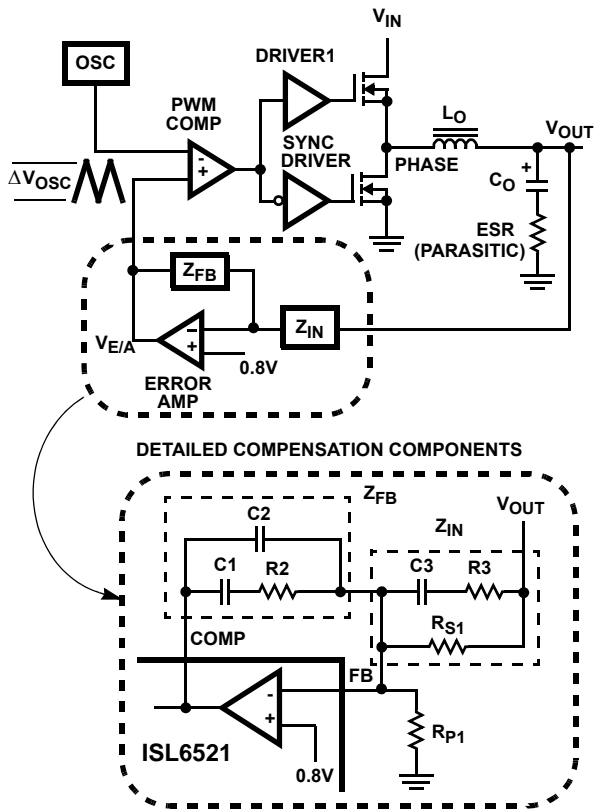
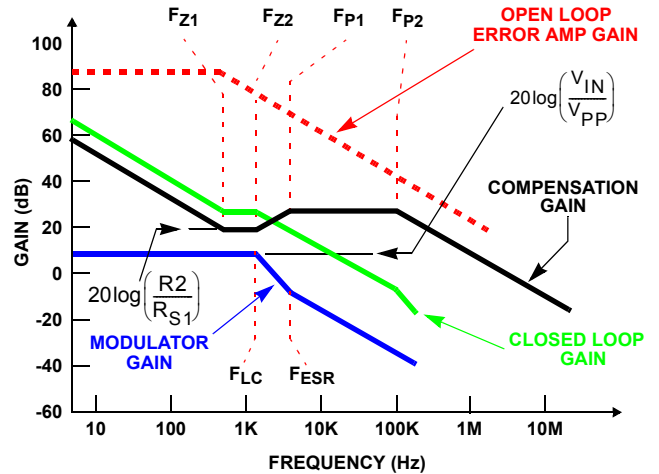

FIGURE 5. VOLTAGE-MODE BUCK CONVERTER COMPENSATION DESIGN
FIGURE 6. ASYMPTOTIC BODE PLOT OF CONVERTER GAIN
and Z_{FB} . The goal of the compensation network is to provide a closed loop transfer function with high 0dB crossing frequency (f_{0dB}) and adequate phase margin. Phase margin is the difference between the closed loop phase at f_{0dB} and 180 degrees. The equations below relate the compensation network's poles, zeros and gain to the components ($R1$, $R2$, $R3$, $C1$, $C2$, and $C3$) in Figure 5. Use these guidelines for locating the poles and zeros of the compensation network:
Figure 6 shows an asymptotic plot of the DC-DC converter's gain vs. frequency. The actual Modulator Gain has a high gain peak dependent on the quality factor (Q) of the output filter, which is not shown in Figure 5. Using the above guidelines should yield a Compensation Gain similar to the curve plotted. The open loop error amplifier gain bounds the compensation gain. Check the compensation gain at F_{P2} with the capabilities of the error amplifier. The Closed Loop Gain is constructed on the log-log graph of Figure 6 by adding the Modulator Gain (in dB) to the Compensation Gain (in dB). This is equivalent to multiplying the modulator transfer function to the compensation transfer function and plotting the gain.